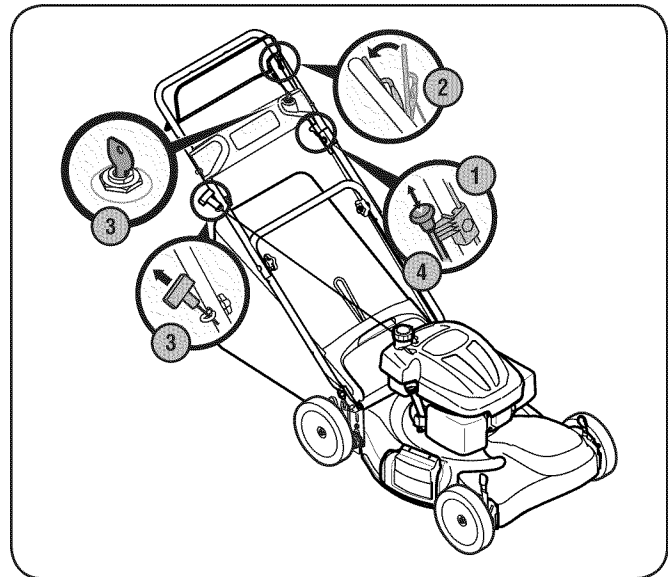

Figure 5-1
1. Pull out the choke knob located on the left side of the upper handle. See Fig. 5-1.
3. **Recoil Start:** Pull the recoil starter lightly until resistance is felt, then pull rapidly to overcome compression, prevent kickback, and start the engine. Repeat if necessary. See Fig. 5-1.
Electric Start: Turn ignition key to the right to start the engine. Release the key after the engine starts. See Fig. 5-1.